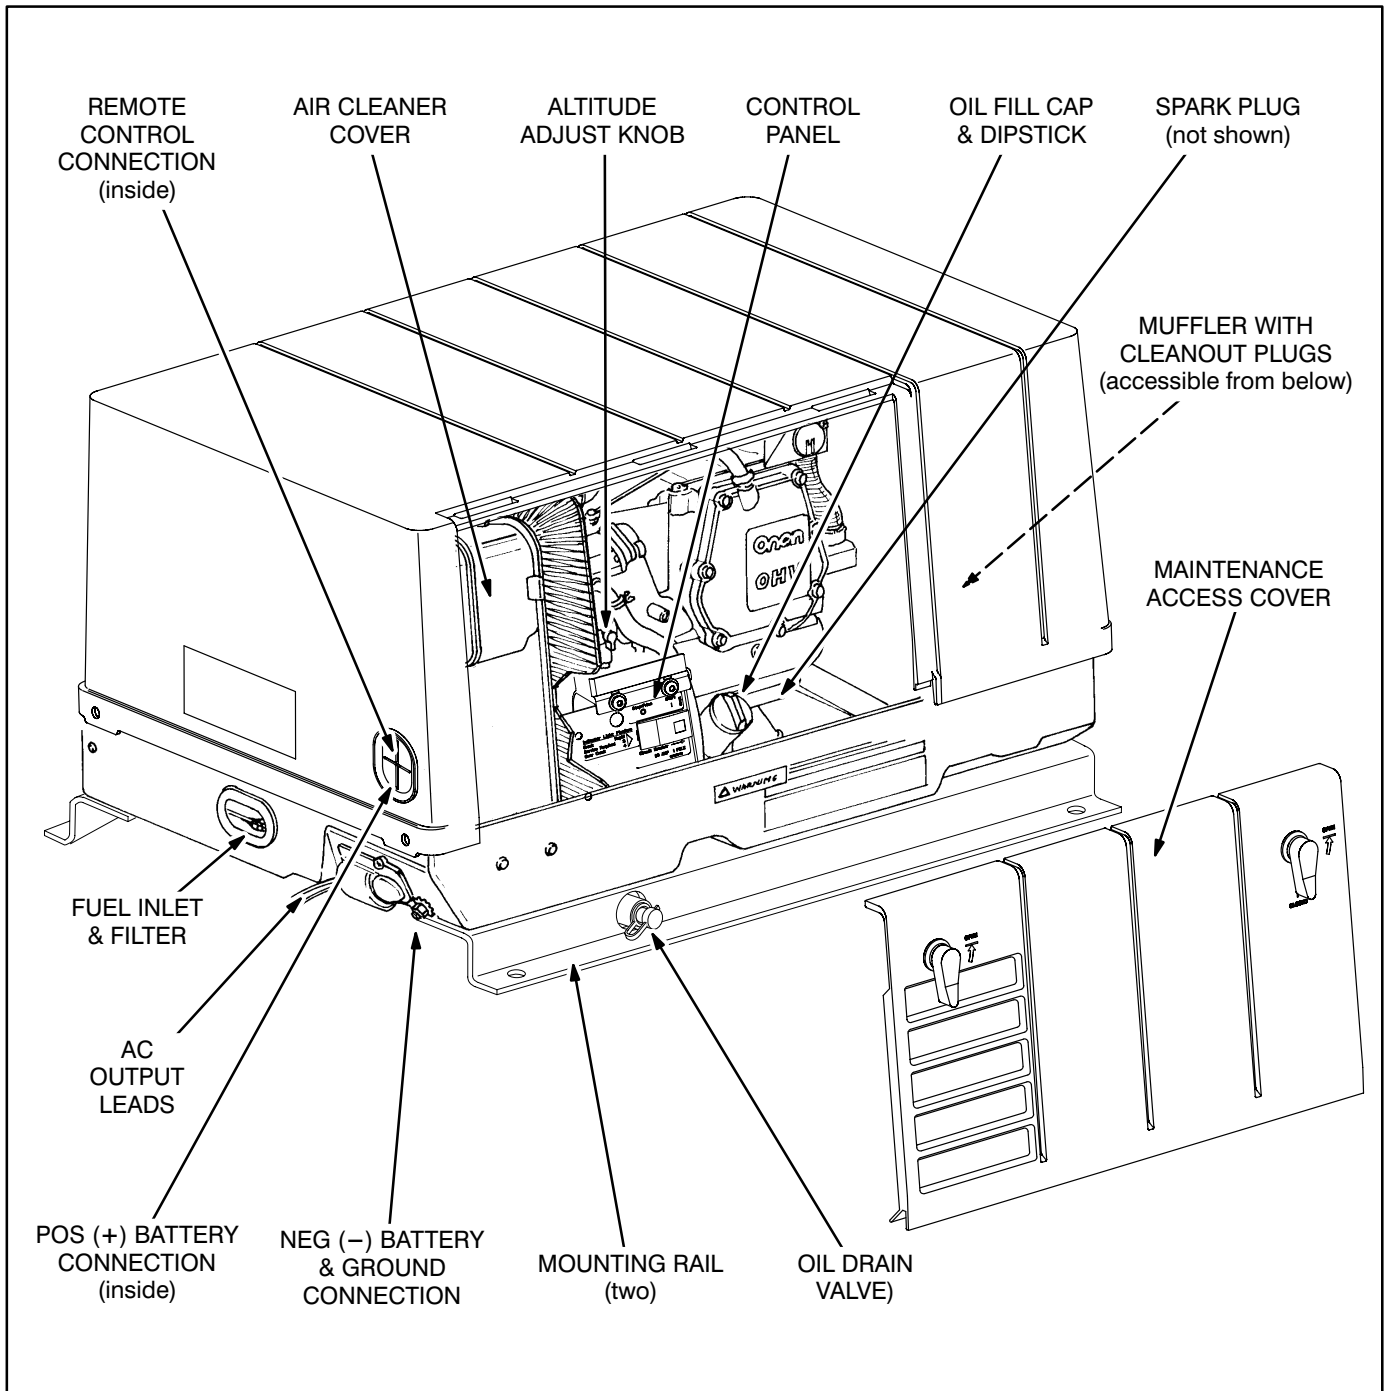
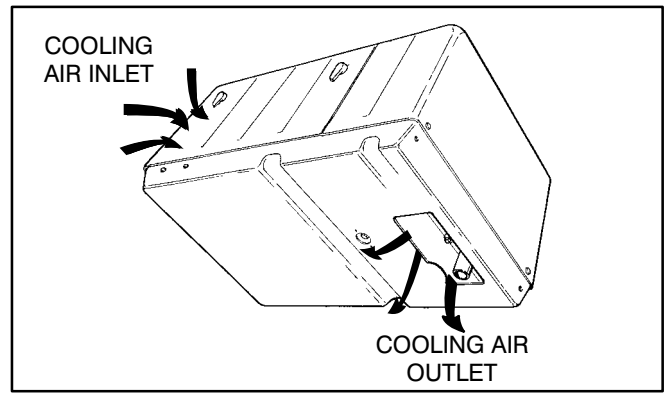
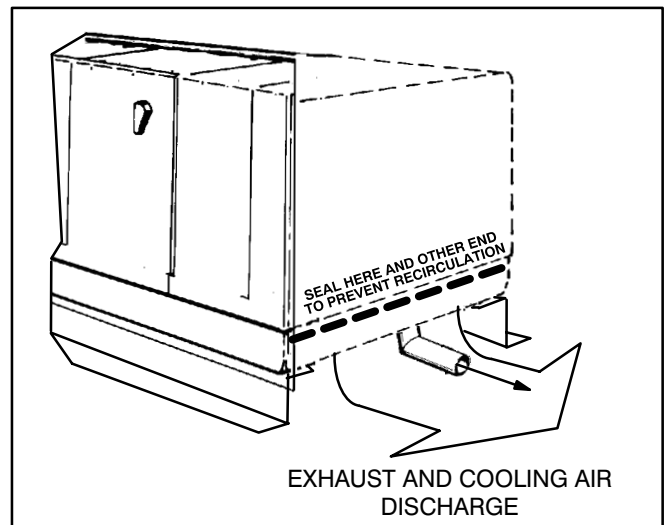

FIGURE 1. TYPICAL GENSET
FIGURE 3. GENSET COOLING AIR INLET AND OUTLET OPENINGS
FIGURE 4. TYPICAL DISCHARGE OF EXHAUST AND COOLING AIR
Figure 1 illustrates a typical genset. See **OUTLINE DRAWING** (Page 19) for installation details: mounting bolt hole locations, connection points (fuel, bat-
2. Gensets with 2 inch (50.8 mm) high mounting rails (Figure 1) are for mounting directly on a flat surface such as the deck. **The rails provide the clearance necessary for discharging genset cooling air out either end of the space between the genset, floor and rails (Figure 4).** Gensets not so equipped must be mounted on rails at least 2 inches (50.8 mm) high to provided for proper genset cooling.
6. The genset must be equipped with an accessible drain valve (Figure 1) or crankcase pump for periodic oil changes if the crankcase oil drain plug is not accessible after installation.
8. The genset can be damaged by overheating if the compartment causes recirculation of warm air from the air outlet into the air inlet (Figure 3). The compartment should seal off one end or the other of the space between the floor, genset and mounting rails. All cooling air and exhaust should discharge out the other end and be sealed off from the compartment (Figure 4).
- A. There is access to the fuel, AC output, battery and remote control connections on the left side of the genset (Figure 1). At least 1 inch (25 mm) clearance is required.